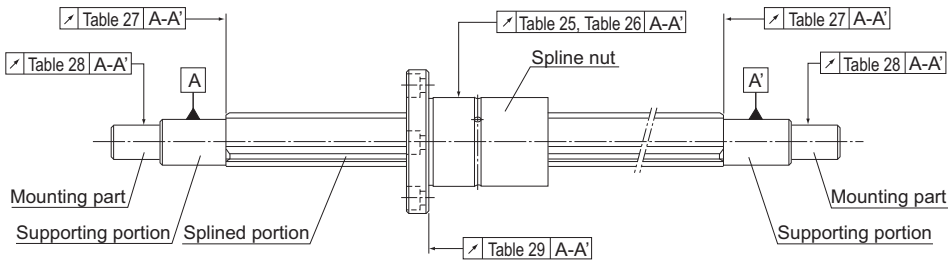
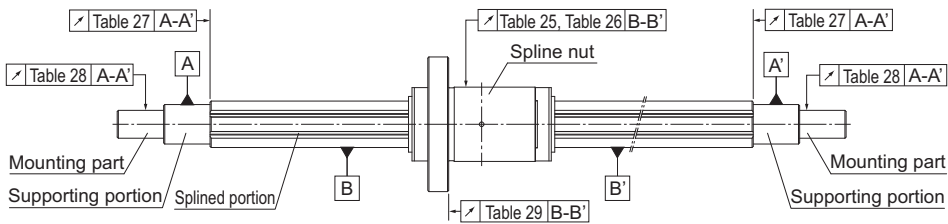

Fig.9 LBS/LBF Accuracy Measurements
Fig.10 LT/LT-X Accuracy Measurements
The accuracy of a ball spline is divided into normal grade (No symbol), high accuracy grade (H), or precision grade (P) based on the radial runout of the spline nut diameter in relation to the spline shaft support. The areas measured are shown in Fig.9 and Fig.10.